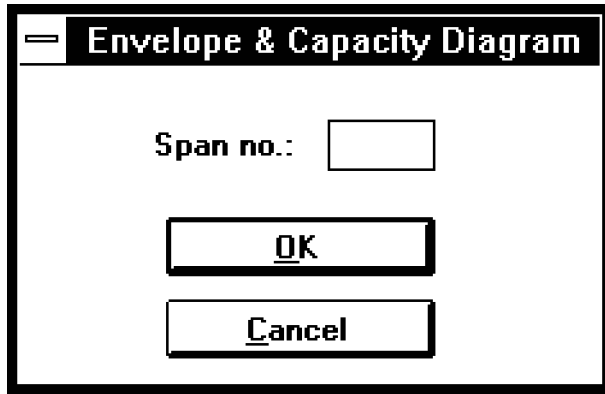

Figure 4-29—The Envelope & Capacity Diagram dialog box
- From the **View** menu, select **Envelope & Capacity Diagrams**. The dialog box of Figure 4-29 appears.